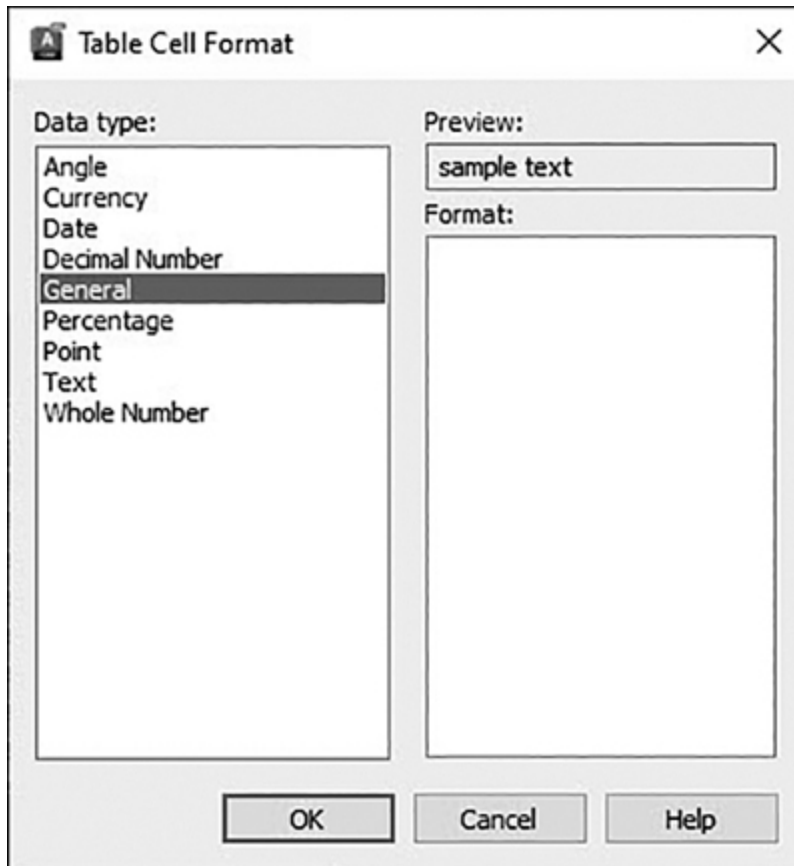

Figure 12-8
- The **Format:** setting controls the data type and display for the text in the cell. Selecting the ... button to the right of the current **Format:** setting displays the **Table Cell Format** dialog box shown in Figure 12-8.